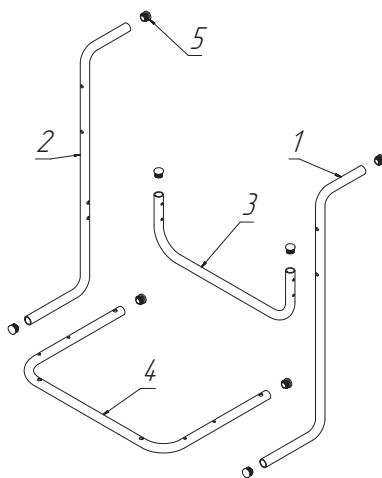

Figure 10.
Install the hole plugs (5) into left (1) and right (2) grip ends, transverse tube (3) and bottom tube (4) to avoid any gaps (Figure 10).